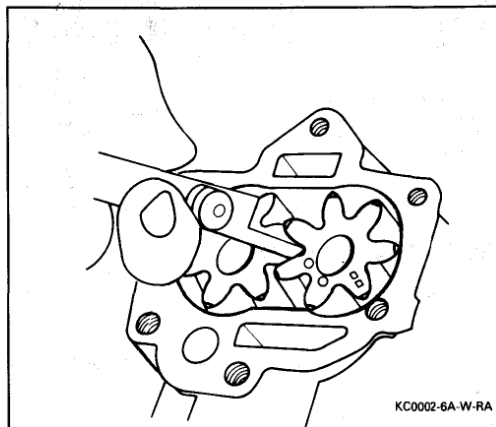

Figure 44 Measuring Oil Pump Gear Lash
Figures 44 through 48
- Gear lash. Install gears, and measure in several places (Figure 44).